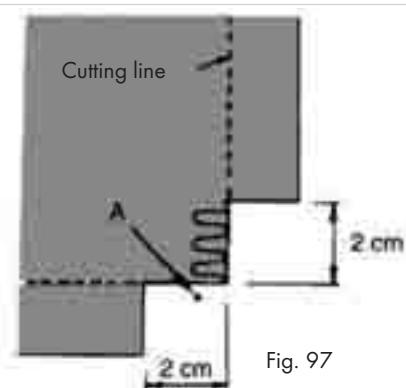

Fig. 97
1. Cut away, before and after the corner, about 2 cm to the seam line (Fig. 97).
2. Sew a stitch further than to the marking "A" on the drawing and then stop (Fig. 97).
3. Lift the needle and sewing foot ④.